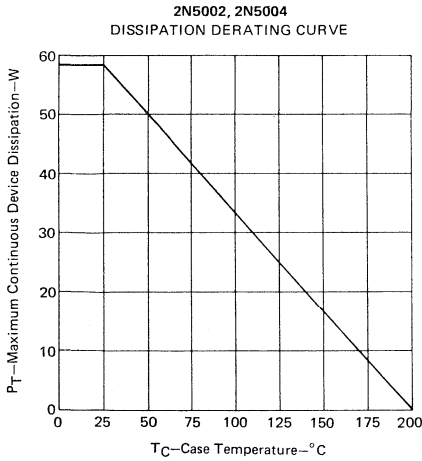

FIGURE 9
3. For operation above (or below) 50°C case temperature, refer to Dissipation Derating Curves, Figures 9 and 10.